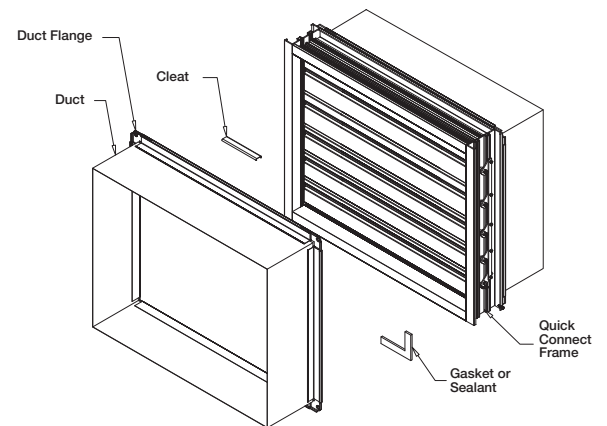

Figure 5: Quick Connect Frame
- 2) To seal the two flange systems together Neoprene or Butyl gasket may be applied to the mating surfaces (**Figure 5**).